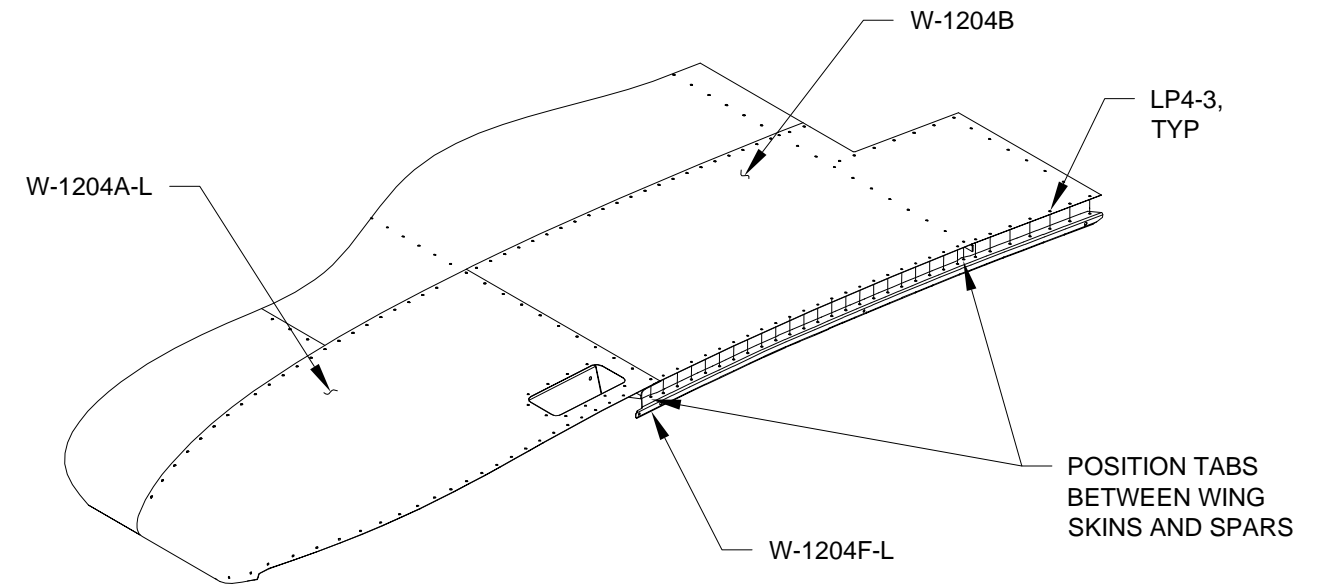

FIGURE 4: ATTACHING THE AFT WING TIP RIB
Step 4: Rivet the W-1204F-L Aft Wing Tip Rib to the W-1204A-L Wing Tip Fwd Skin and W-1204B Wing Tip Aft Skin as shown in Figure 4. The tip of the Rear Spar Assembly may be trimmed to ease fitting between the flanges of the Aft Wing Tip Rib.